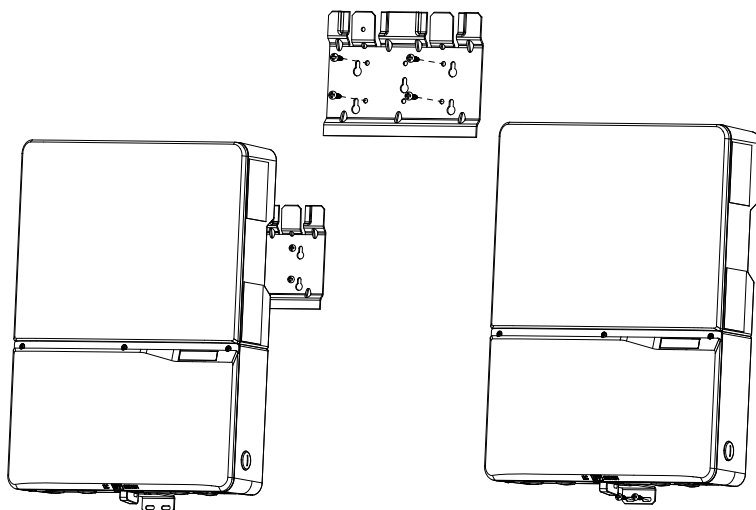

Figure 14: Installing the plate and inverter on a wood stud wall
1. Mount the mounting plate to the wall with at least 4 screws and anchors (\varnothing 6mm). With 4 screws use 4 holes A or 4 holes B (see Figure 14). You can use the mounting plate as a template for marking the positions of the boreholes.